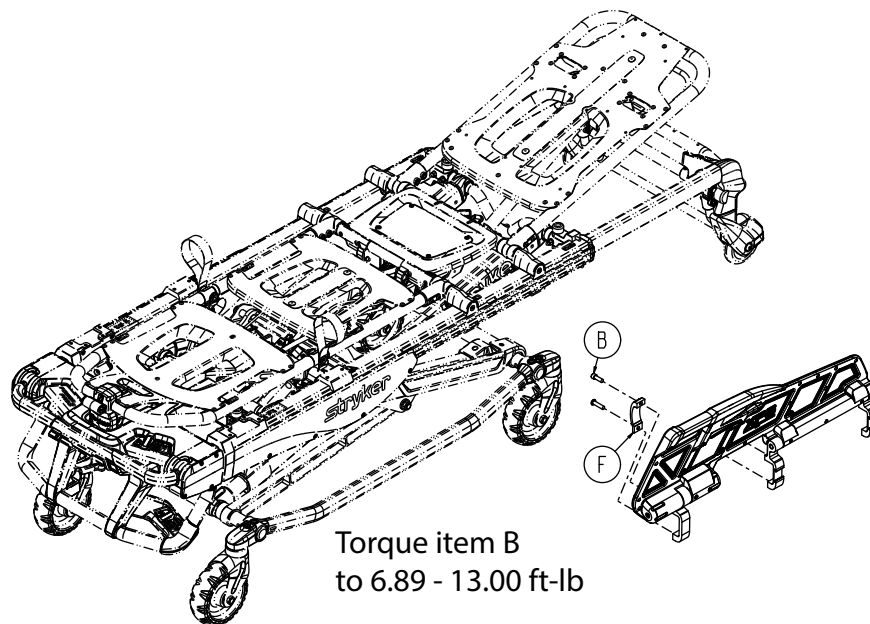

Figure 111 – Remove the hex socket button head cap screw
13. Using a 3/16" hex wrench, remove the hex socket button head cap screw (B) that secures the XPS inner bracket (F) to the slider block (Figure 111). Save the screw.